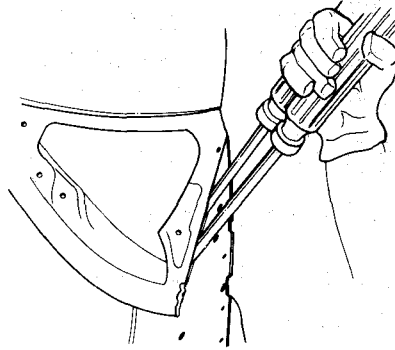

Figure 3-10.
- 4 Separate side rail assembly away from cowl panel (Figure 3-10).